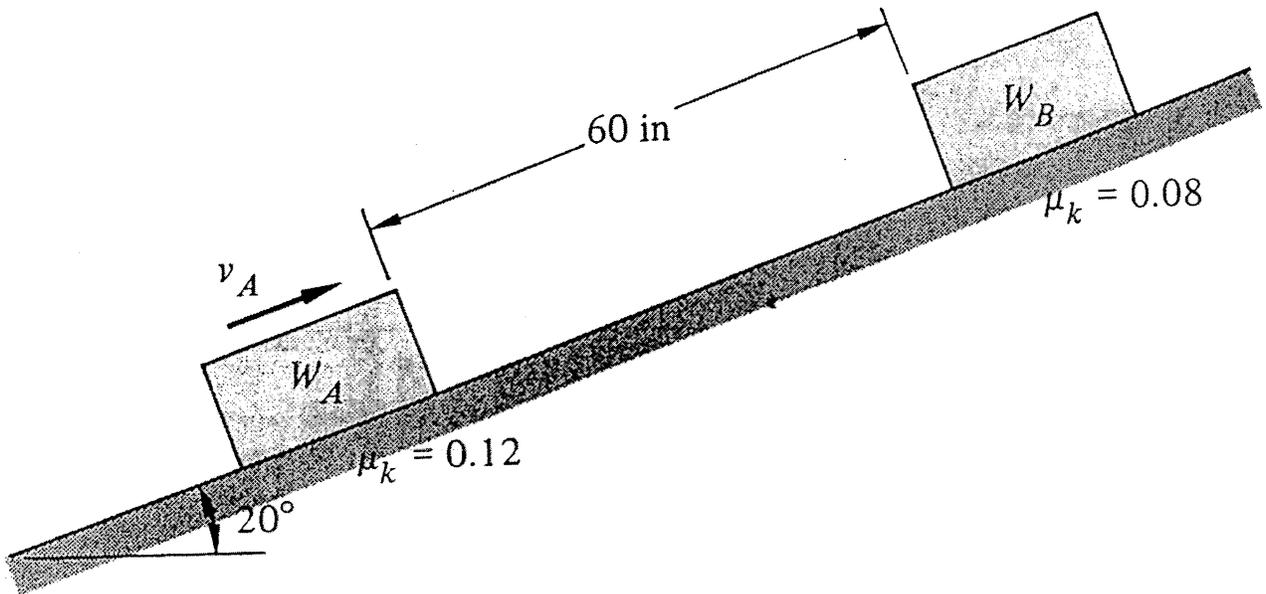

FIGURE 5.
- V. At the instant shown in figure 5, block **B** is released with zero initial velocity. The velocity of block **A**, v_A , is constant, and the blocks collide at a position 20 inches from the original position of block **B**. The impact is assumed to be elastic. Block **A** weighs 10 lb_f and block **B** weighs 12 lb_f.